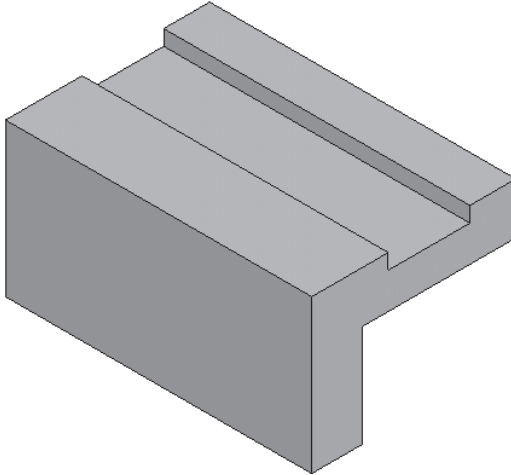

Figure 5-57 Base feature of the model
- a. Create the base feature on the right plane, refer to Figure 5-57.
6. Choose **Finish** from the ribbon bar. The base feature of the model is shown in Figure 5-57.